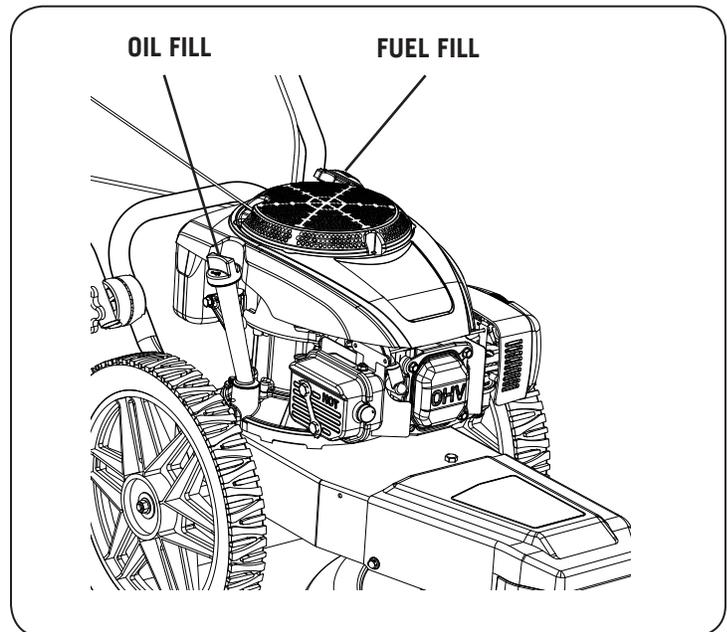

Figure 7
1. Place the string trimmer on a level surface and initially add $\frac{1}{2}$ of the SAE 30 high detergent oil into the oil fill (see Figure 7) and wait one (1) minute for the oil to settle.